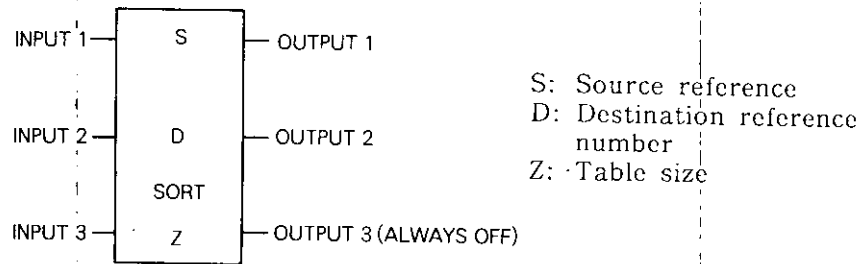

Fig. 5.75 SORT General Form
- Fig. 5.75 shows the form of sort.